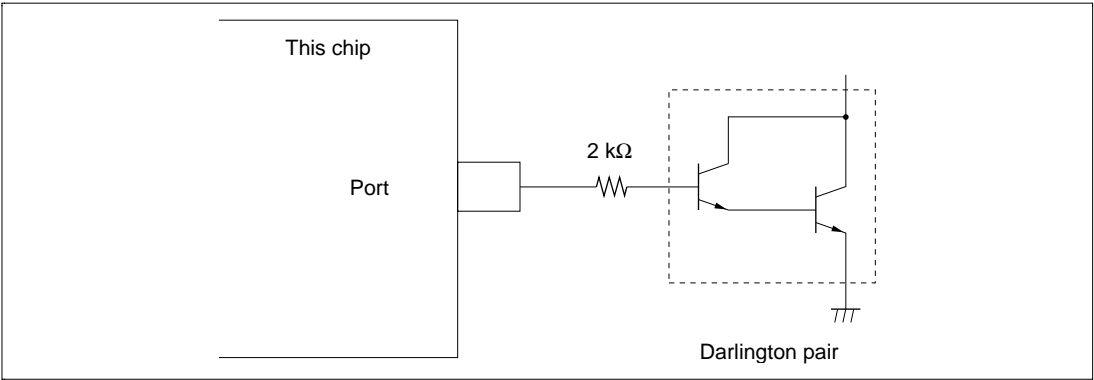

Figure 22.25 Darlington Pair Drive Circuit (Example)
2. When driving a Darlington pair or LED, always insert a current-limiting resistor in the output line, as show in figures 22.25 and 22.26.